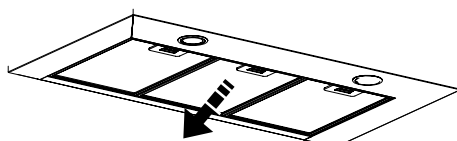

Fig. 1
### Removing the filter cartridge (Fig. 1).
1. Remove the filter cartridge by disengaging it (Fig. 1).